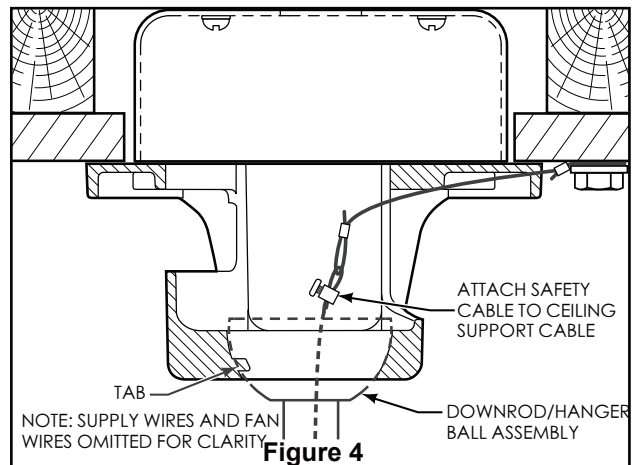

Figure 4
4. Slide the blade through the slot in the motor assembly and position blade over the motor assembly with threaded posts showing. Make sure the bottom edge of the blade is fully seated against the flywheel of motor assembly. Tighten washer-head screws with fiber washers to secure the blade to the flywheel of motor assembly. (Figure 4)
4. Slide downrod into the downrod support on top of the motor. Install the clevis pin by aligning the holes in the downrod support with holes in the downrod. Secure clevis pin with hairpin clip. Tighten the two set screws with nuts in the downrod support. (Figure 4)
4. Carefully lift the fan and seat the downrod/hanger ball assembly on the hanger bracket that was just attached to the ceiling joist. Be sure the groove in the ball is lined up with tab on the hanger bracket. (Figure 4)
5. Attach the safety cable to ceiling support cable. Slide cable clamp onto safety cable (from fan). Place the end of cable through the loop of ceiling support cable. Pull as much cable through loop as possible. Feed end of cable into clamp hole and firmly tighten screw (Figure 4). Cut off excess safety cable.
3. After connections have been made, turn leads upward and carefully push leads into the outlet box, with the white and green leads to one side of the box and the black leads to the other side. (Figure 4)
- 4. Secure the glass to the LED assembly by twisting in a clockwise direction. Do not over-tighten. (Figure 4)
- **4.** To set the remote code with a small screwdriver or ball point pen (neither included), slide dip switches firmly up or down. (Figure 4)